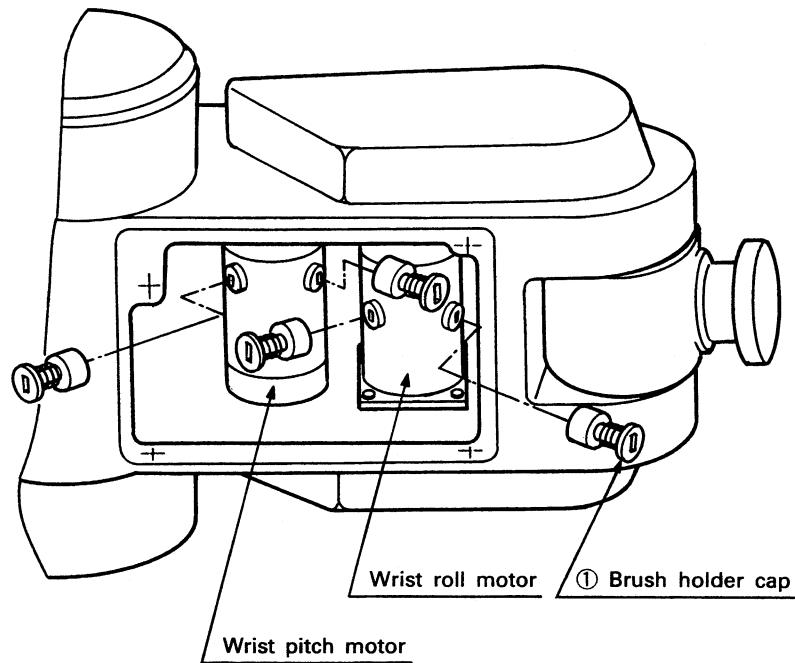

Fig. 4.3.7 Checking and Changing the Wrist Pitch and Wrist Roll Drive Motor Brushes
- (1) Fig. 4.3.7 outlines the inspection and replacement procedures of the wrist pitch and wrist roll drive motor brushes.
- (2) Remove the pulley cover (R) and card cover in accordance with Section 3.2, Removal of Covers. Remove the card cover with special care so that the cables connected to the printed circuit board on the card cover may not be disconnected or broken.
- (3) Check the brushes in accordance with steps (3) to (6), A. Inspection of Section 3.3.1, Inspection and replacement of the waist drive motor brushes.